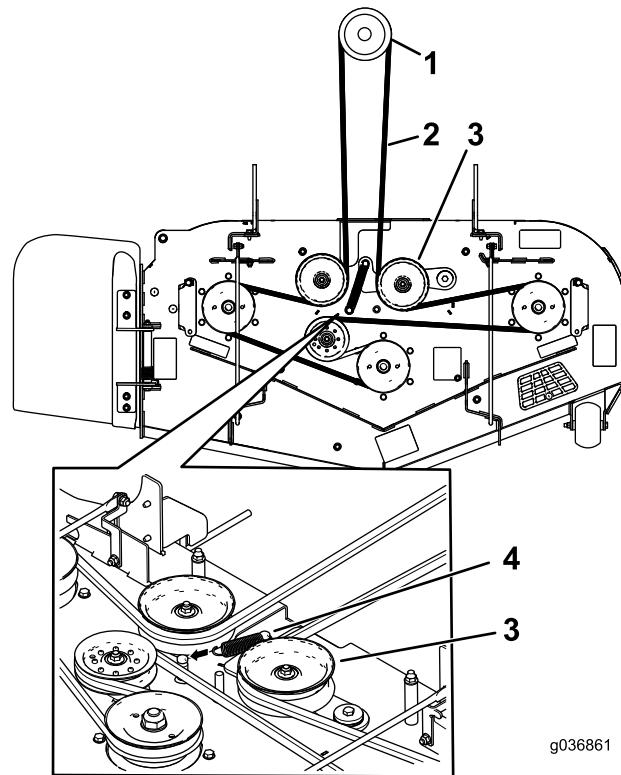

Figure 63
10. Install the new belt around the mower pulleys and the clutch pulley under the engine (Figure 63).
11. Install the idler spring (Figure 63).